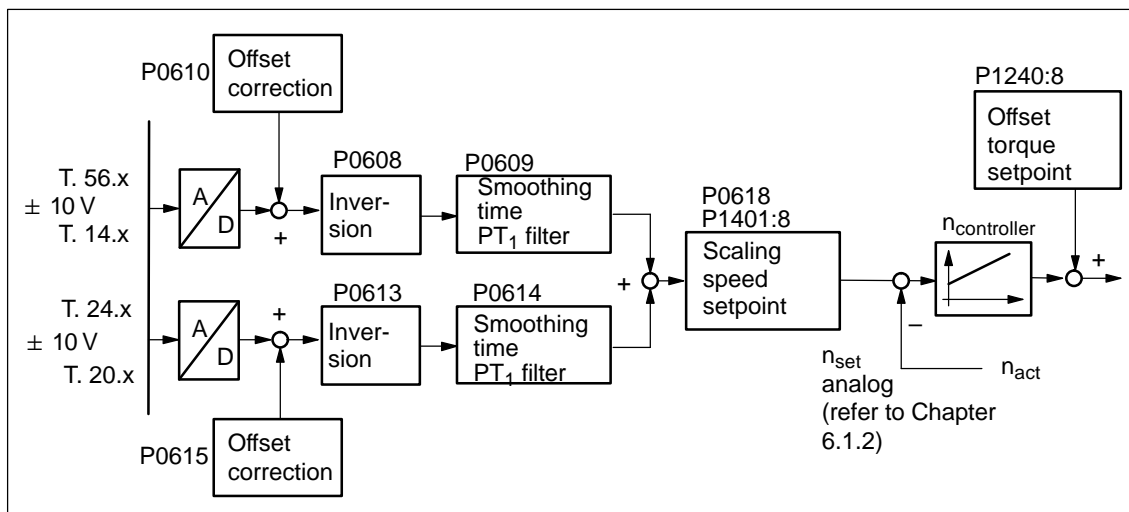

Fig. 6-53 Closed-loop speed control via terminal 56.x/14.x and/or terminal 24.x/20.x
**$n_{set}$  mode via term. 56.x/14.x and/or T. 24.x/20.x** The voltage for the speed setpoint is dependent on the parameterization of the analog inputs and can comprise the voltage at terminal 56.x/14.x and/or terminal 24.x/20.x as well as the appropriate offset corrections and inversions (refer to Fig. 6-53).